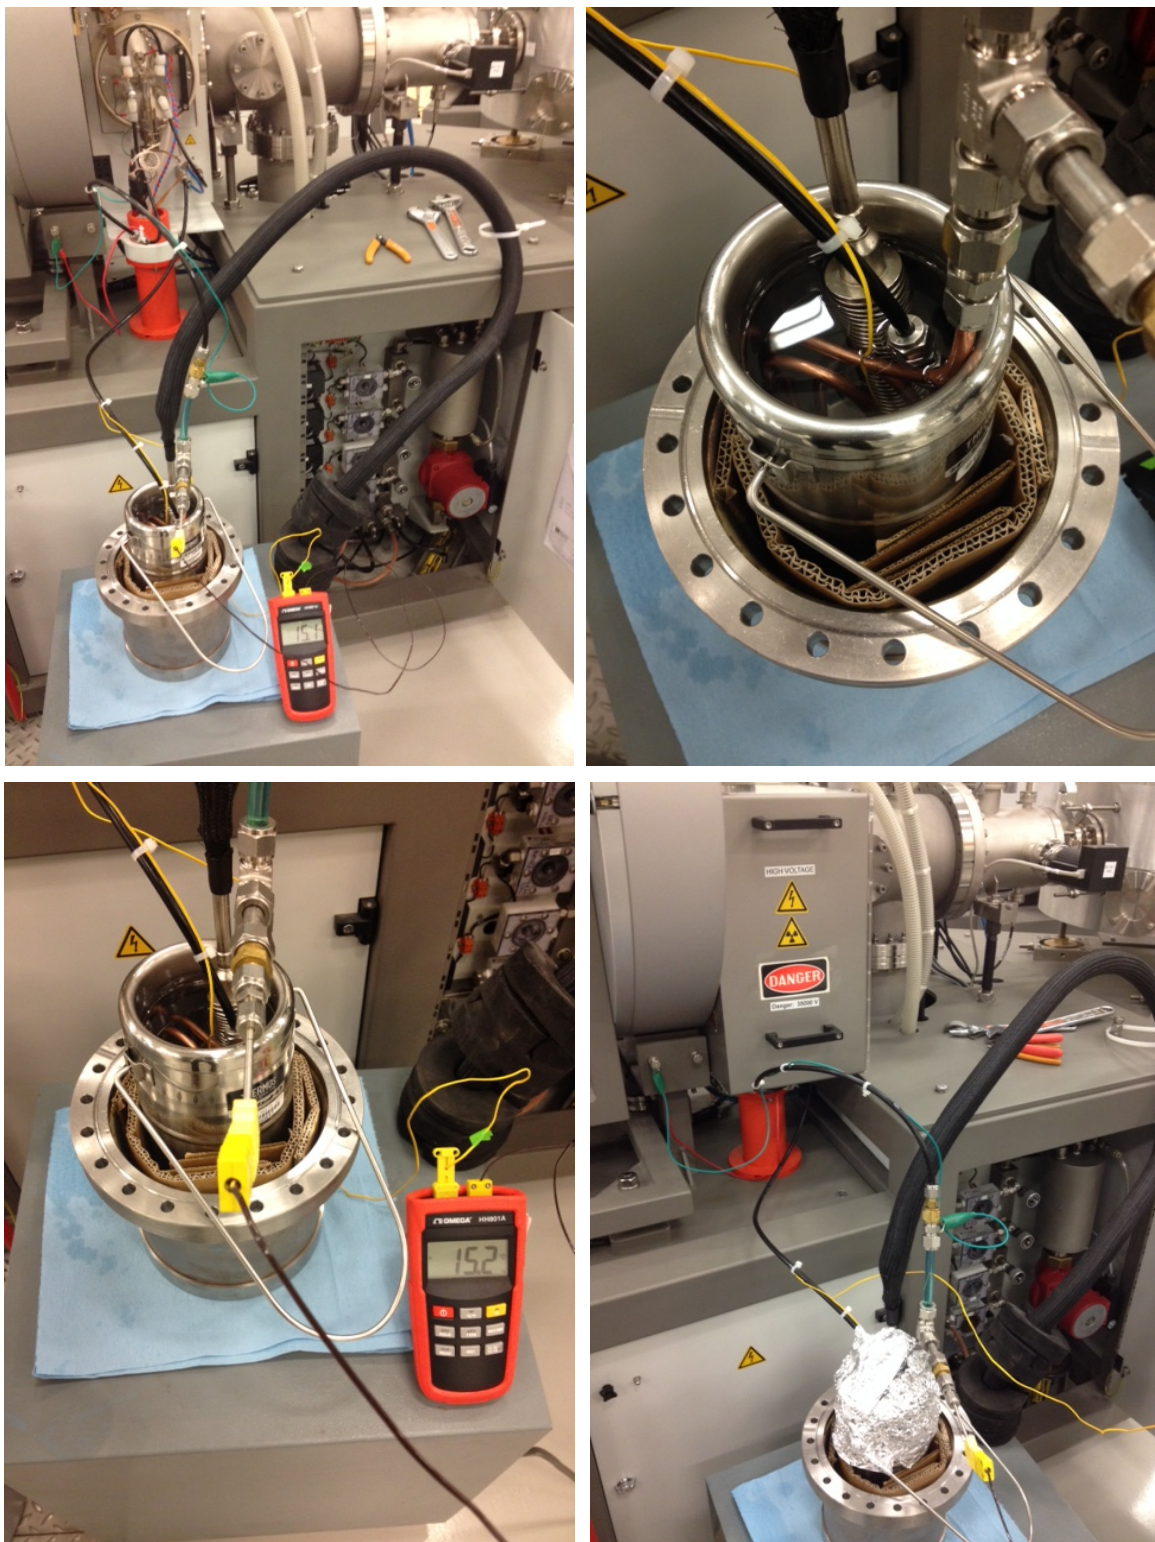

Figure 2: Photos of the experiment setup on December 3, 2015.
The heart of the heat exchanger was an 18 inch length of 1/4 inch (OD) copper pipe, coiled vertically in the dewar (Figure 2 for photos). The original coil (made by Norm and Mo) was approximately 75 inches (1.9 meters) total length when uncoiled, however we found the Grundfos reservoir pump of the SO-110 incapable of pumping Syltherm through the 75 inch coiled pipe (we also tried removing quick connects and replacing with 1/4 inch Swagelok connections to reduce potential imedance to flow, but to no avail). Xiaolei, Mo and myself subsequently uncoiled the pipe and tried to see if the Grundfos pump could handle a large loop with no turns, however this also failed. We then cut the pipe in half (approximately 37.5 inch length) but again Syltherm could not be pumped through that length.
Cutting the pipe to an 18 inch length finally worked with the Grundfos pump; this length was used as the coil in these experiments described here (see Figure 2), but note that this length has not been optimized. The 18 inches of the copper pipe were coiled vertically, into about four turns (as few turns as possible) and immersed in the dewar Syltherm. The compressor cold finger was also immersed in the Syltherm, next to the copper pipe in the dewar. The dewar was protected from atmospheric moisture by a tight aluminum foil cover (Figure 2).
An Omega thermocouple (diameter 1/8 inch; part# GKMQSS-125U-6, obtained from Gilles) was attached to a 3/8 inch Swagelok tee using 1/8 inch to 3/4 inch Swagelok fittings. Care was taken to ensure the thermocouple did not touch the metal of the tee or obstruct flow of the Syltherm, but only poked slightly into the flow by about 1-2 mm (checked visually). We used a 3/8 inch tee to increase the area of Syltherm flow around the thermocouple, to ensure the thermocouple could not impede the flow. The T1 thermocouple arrangement was positioned on the feed (F) in Figure 1, as written on the SO-110 itself, directly after the copper coil and right before entering the source (see Figures ?? and 2). The T2 thermocouple was a wire-style junction Omega thermocouple (part #???) placed in the dewar Syltherm as seen in Figure 2. Temperature was measured using a handheld Omega HH801A thermocouple sensor. Note that both thermocouple were not calibrated, and were used as-is out of the box.